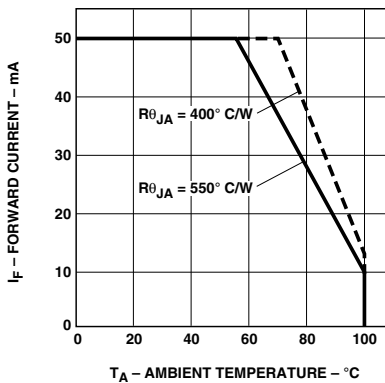

Figure 6. Maximum forward DC current vs. ambient temperature. Derating based on T_JMAX = 110°C.
1. Derate linearly as shown in Figure 6.